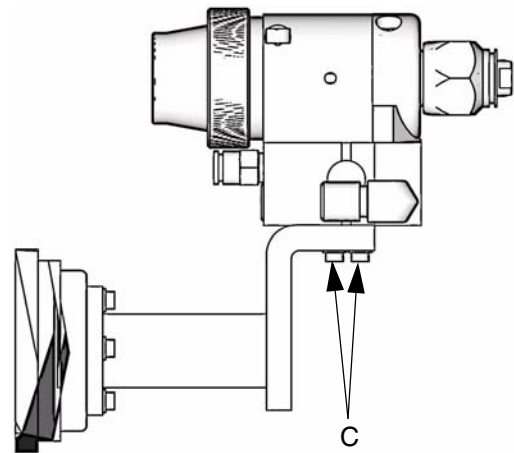

FIG. 4: Stationary Support Mount
To mount the gun on a stationary support (refer to FIG. 4. and **Mounting Hole Layout**, page 28):
3. Install a bleed-type air shutoff valve on the gun air cylinder supply line, downstream of the air regulator, to shut off air to the gun cylinder. Connect the air supply line to the gun cylinder air inlet (C). See Fig. 4.
4. For paint spray applications, install an in-line fluid filter, part no. 210500, on the gun fluid inlet (F) to avoid clogging the spray tip with particles from the fluid. See Fig. 4.
5. Connect the electrically conductive fluid hose to the gun fluid inlet (F) or optional in-line filter.